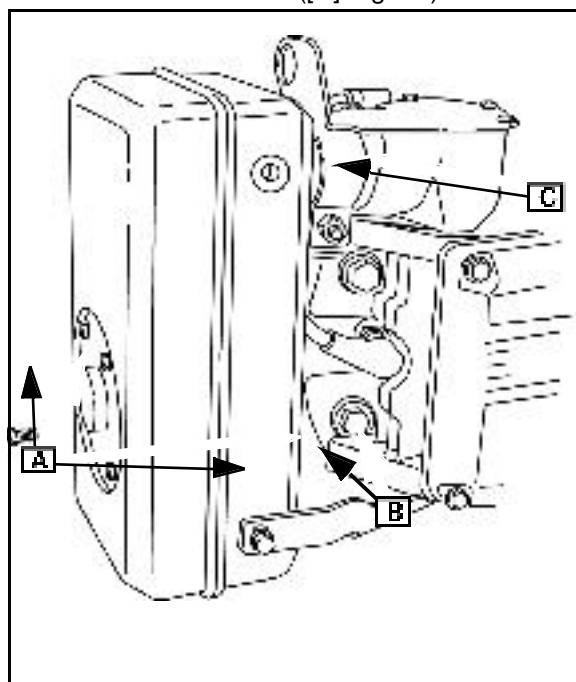

Fig. 21
2. Remove the two lower bolts (A) that hold muffler to bracket ([B] Fig. 21).
3. Loosen muffler clamp nut ([C] Fig. 21) and spread clamp slightly with screwdriver.